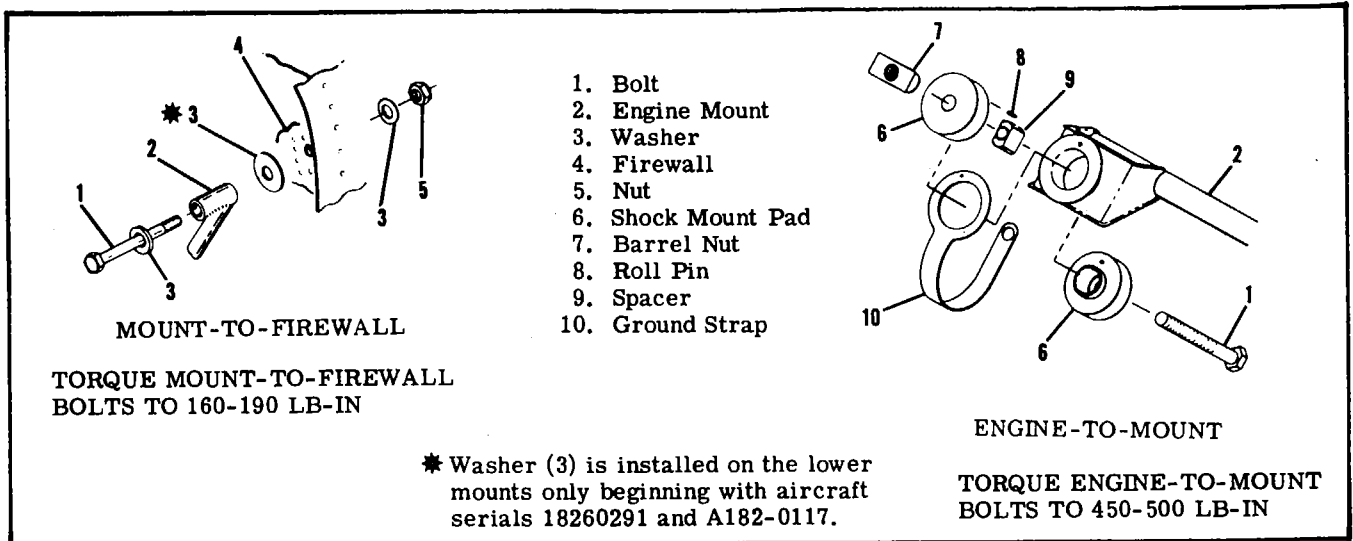

Figure 11-2. Engine Mount Details
- b. Install engine shock-mount pads and bonding straps as illustrated in figure 11-2.
11-28. **ENGINE MOUNT.** (Refer to figure 11-2.)
11-32. **ENGINE SHOCK-MOUNT PADS.** (Refer to figure 11-2.) The bonded rubber and metal shock-mounts are designed to reduce transmission of engine vibrations to the airframe. The rubber pads should be wiped clean with a clean dry cloth.